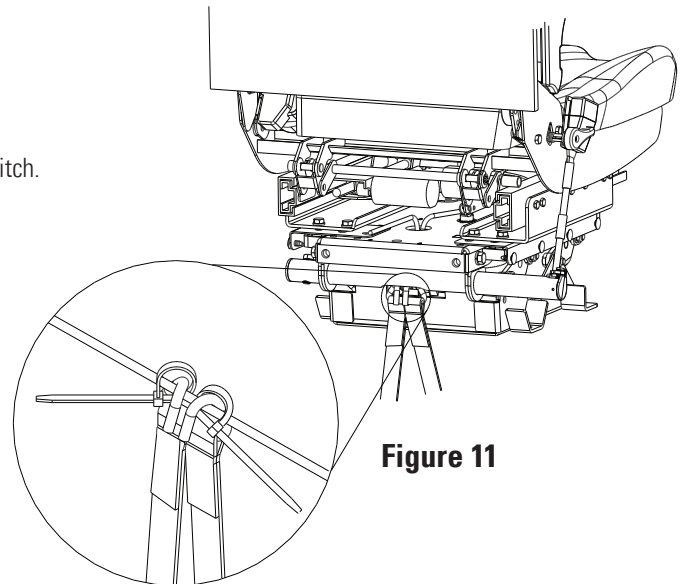

Figure 11
4. Connect hook into ICP cable as shown. **See Figure 11.**
5. Place two tie wraps (supplied) around hook and cable as shown in detail in **Figure 11** and pull tightly. The tie-wraps assure hook remains in engagement with the cable.